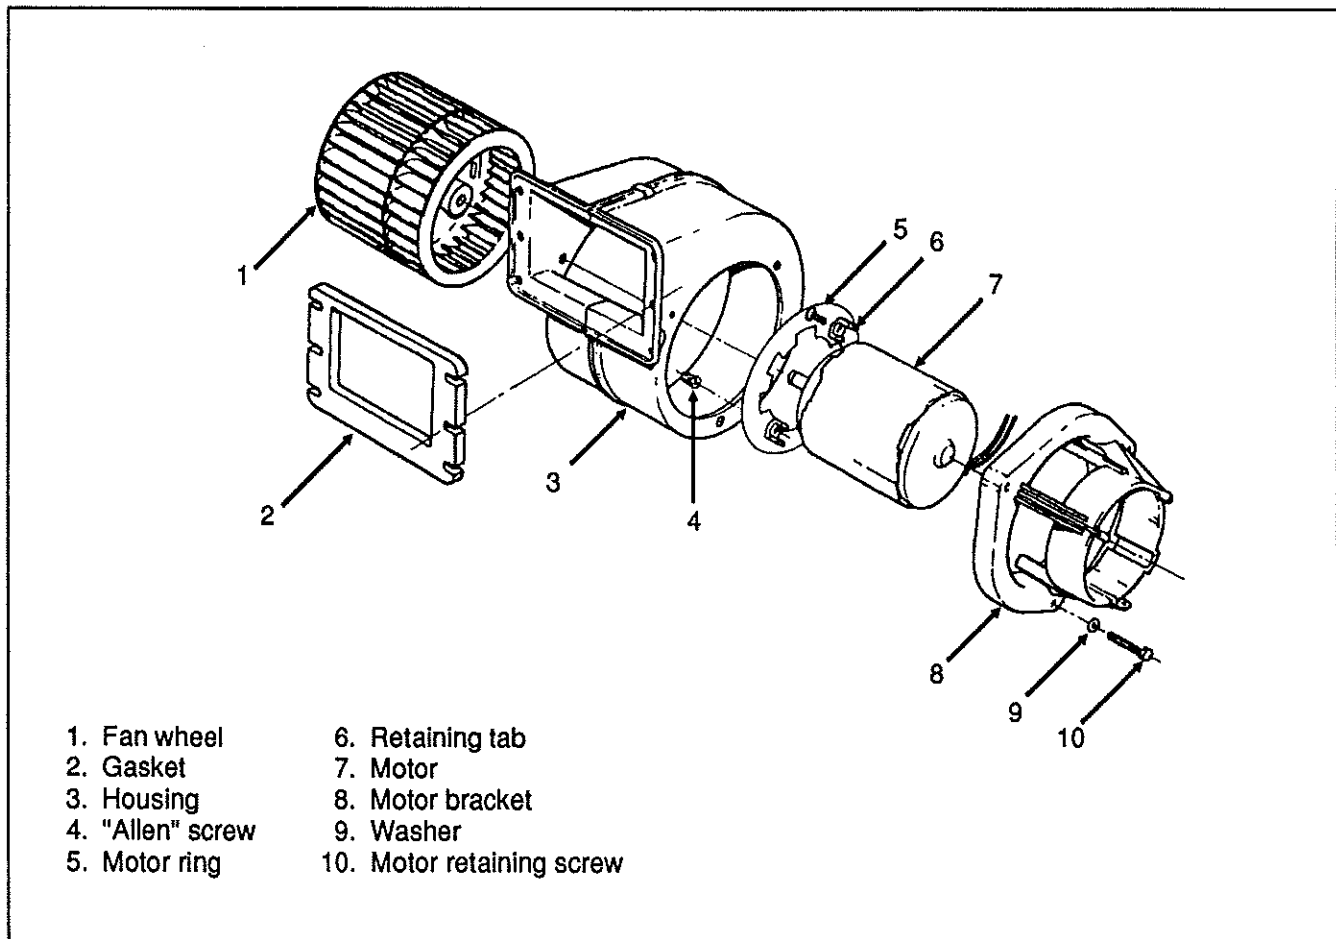

Fig. 13 - Lavatory ventilation fan disassembly
4. The unit can now be disassembled and motor replaced referring to fig. 13 as a guide.